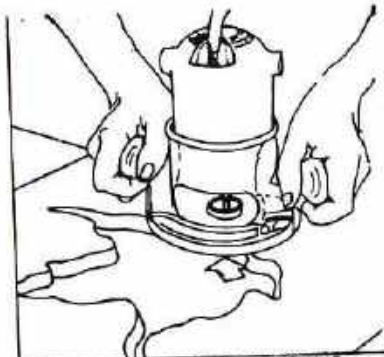

Fig. 737. FREEHAND ROUTING AN IRREGULAR PATTERN USING A WOODEN TEMPLATE
2. An irregular pattern or design can be cut into a surface with the router by using a pre-cut wooden template as a guide Fig. 737. This could involve cutting a vein (groove) outline of the design or cutting out (recessing) the entire background to a given depth by using bits and cutters.